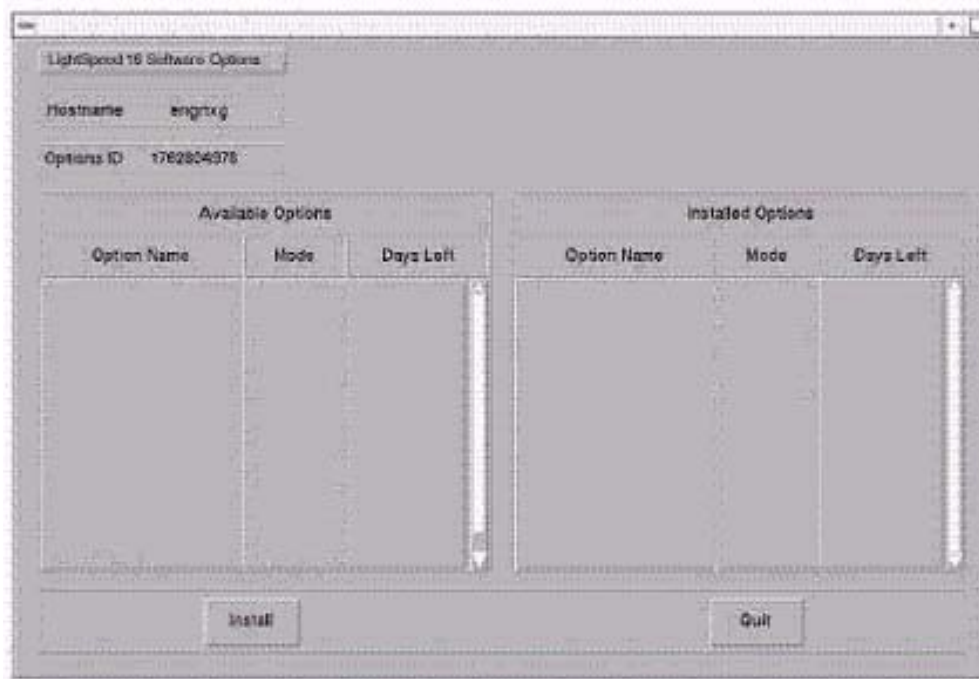

Figure 2-18 Install Options screen
- 5.) Select INSTALL OPTIONS. A blank Software Options screen (Figure 2-18) appears.